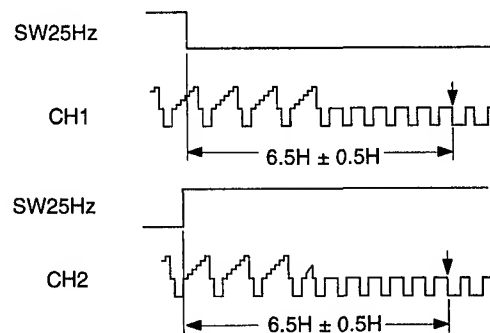

Fig. 3-104
#### (1) Head Switching Point Adjustment (Fig. 3-104)